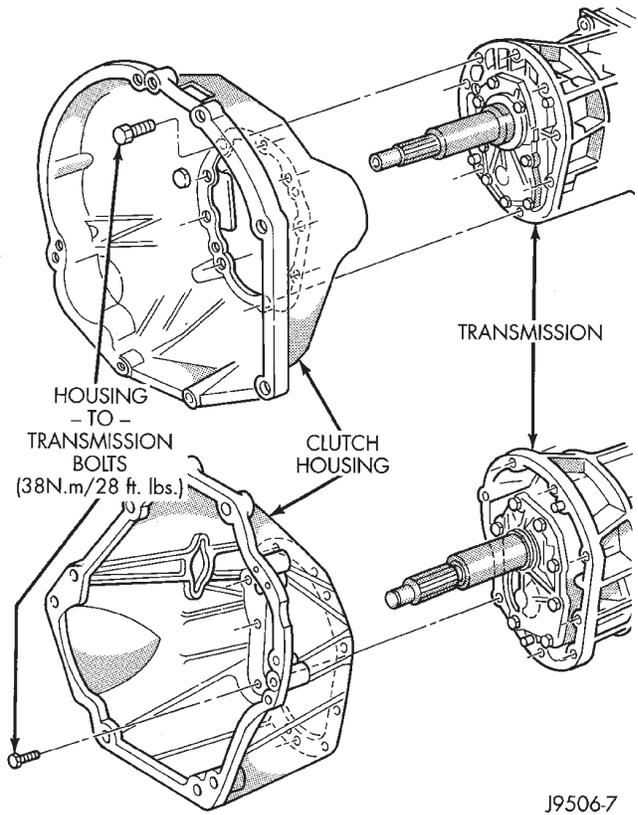
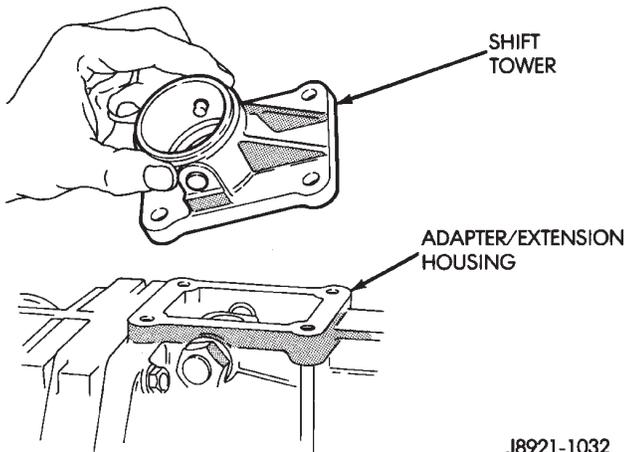

Fig. 18 Clutch Housing
Fig. 16 Remove Shift Tower
- (1) Drain transmission lubricant, if necessary.
- (2) Remove release bearing and lever.
- (3) Remove clutch housing bolts and remove housing (Fig. 18).
- (4) Remove vehicle speed sensor and speedometer adapter, if necessary.
- (5) Remove bolts holding shift tower to transmission case.
- (6) Remove shift tower from transmission case (Fig. 16).